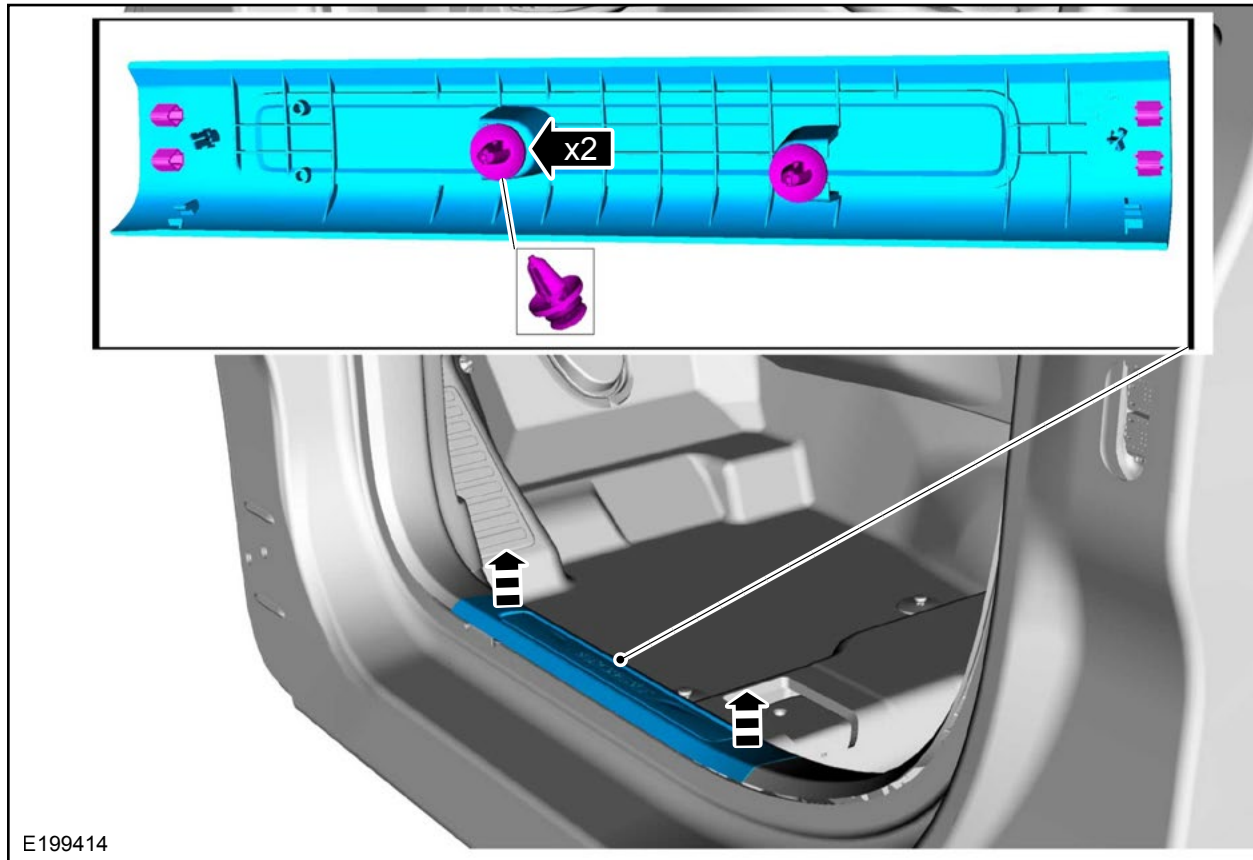

FIGURE 1
- c. Move both front seats to full forward position. From rear seat area, reach in through the holes in the carpet below the rear seat climate control ducts on the floor and feel for water or evidence of moisture on the floor pan sheet metal. See Figure 1.